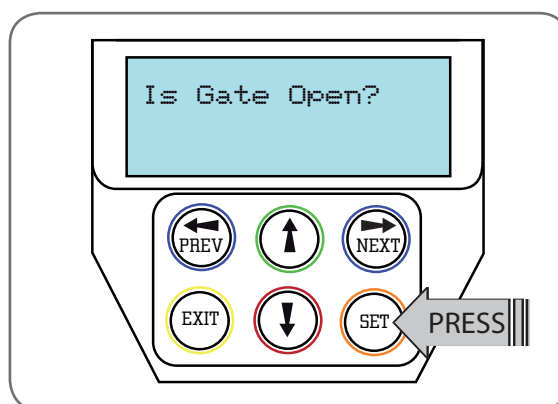

Fig H.4
- Press SET to confirm or press EXIT to go back and drive the gate open (**Fig. H.4**).